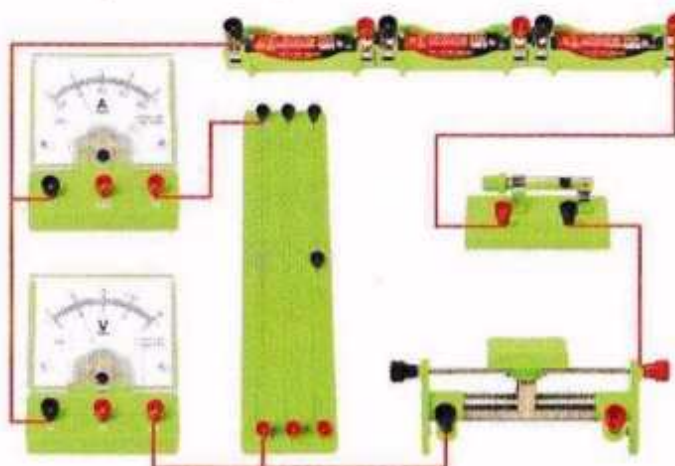

Figure 27-1
3. Usage: as shown in Figure 27-1